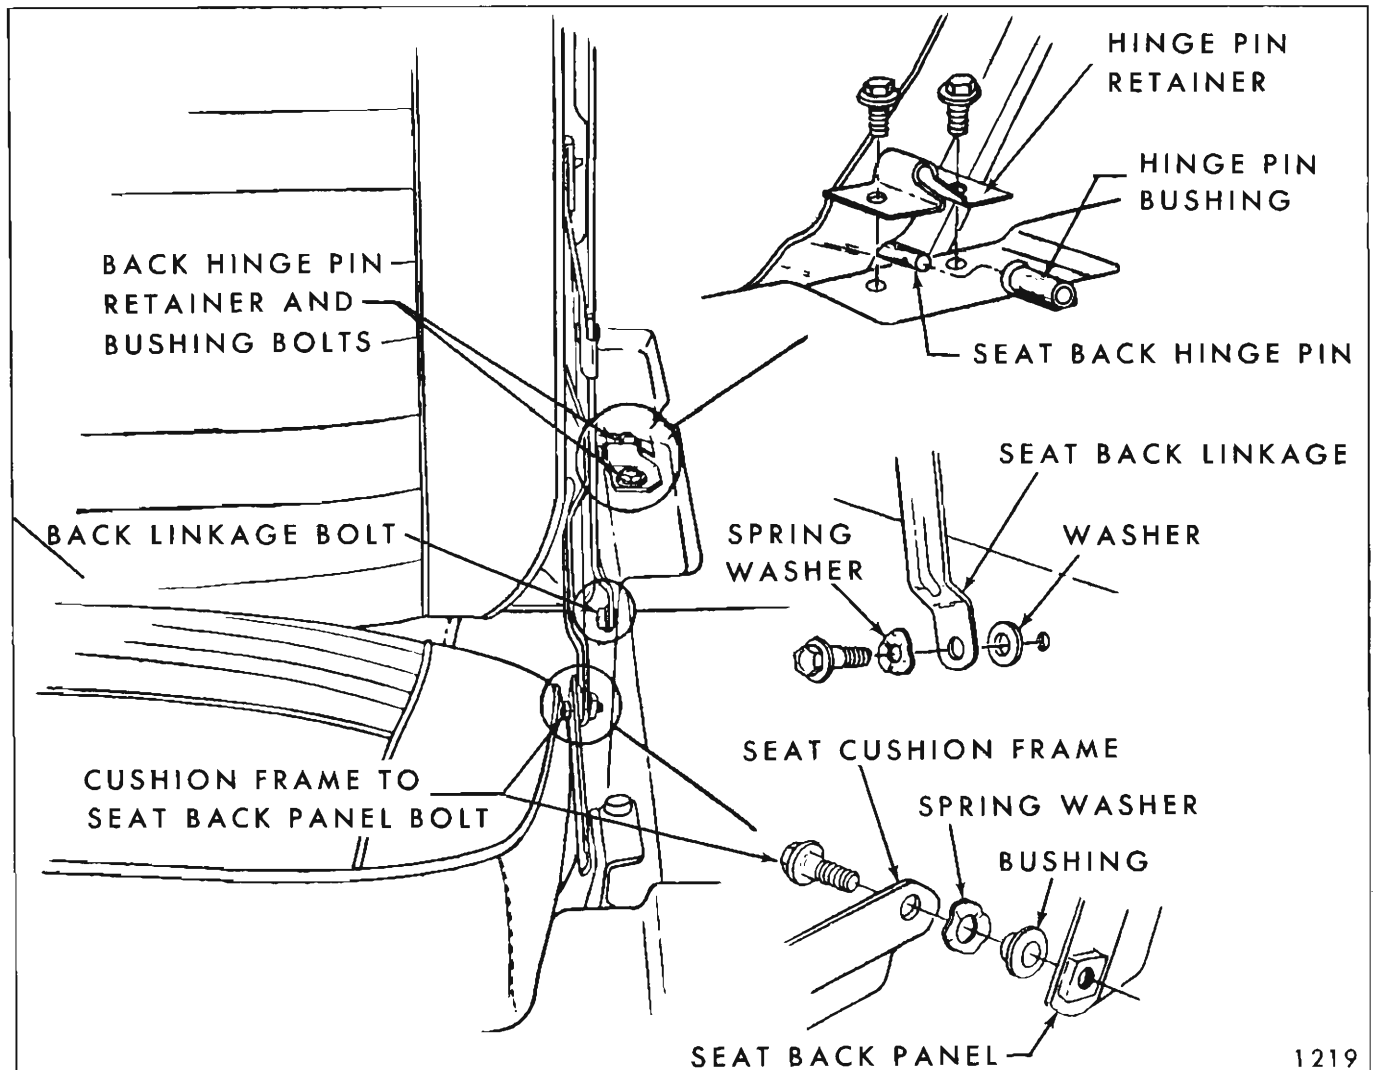

Fig. 2H34—Folding Third Seat
5. To install folding third seat and floor panel assembly, reverse removal procedure. Make sure a seat back hinge pin bushing is installed over both hinge pins. Also install flat washer between seat back linkage and compartment side pan and spring washer between linkage and bolt head (Fig. 2H34).